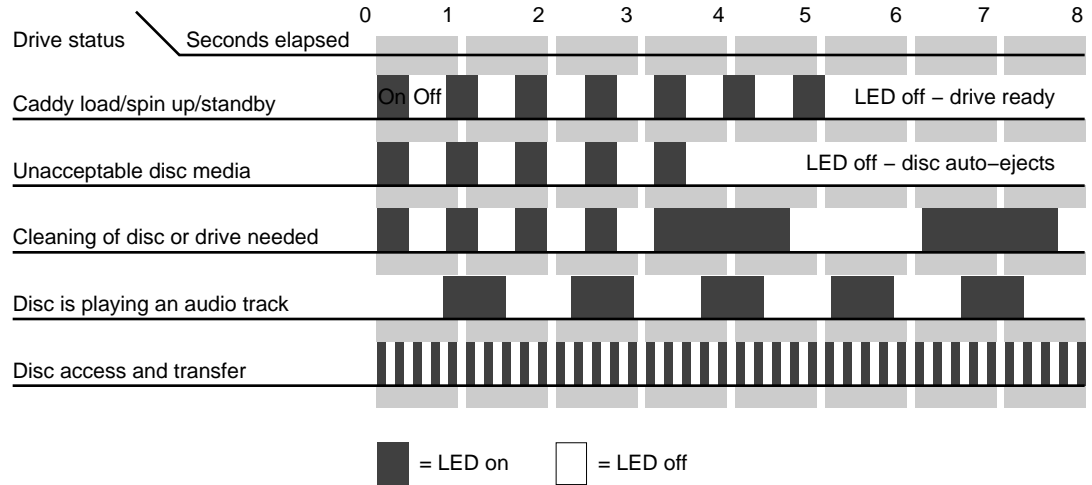

Figure B-4 CD-ROM Drive LED Status Indicators
- A *drive busy indicator LED* is located to the left of the eject button. When this LED is blinking, it indicates drive activity. The LED stays dark when no disc is loaded in the drive. See Figure B-4 for details on blink patterns and the status they indicate for the drive.